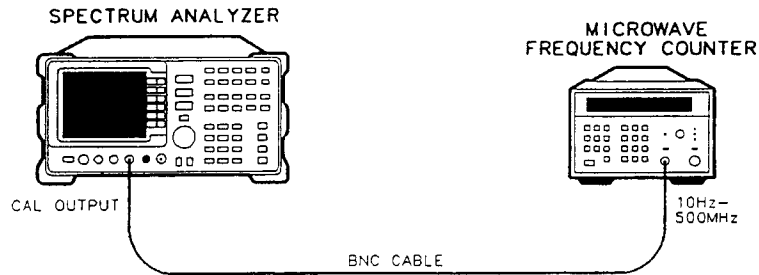

Figure 3-1. Frequency Reference Accuracy Test Setup (Non-Option 003)
1. Connect the equipment as shown in Figure 3-1.